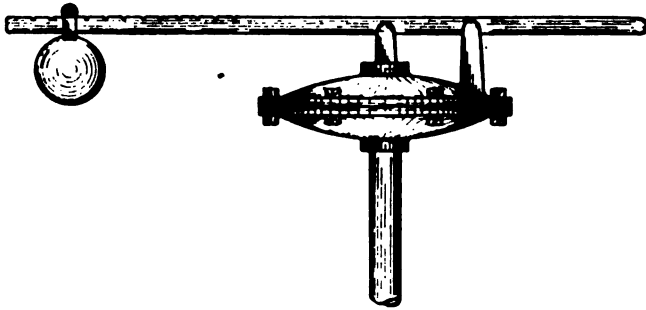

Fig. 10.—Old Style Damper Regulator.
A. A damper regulator (Fig. 10) is a device connected to the